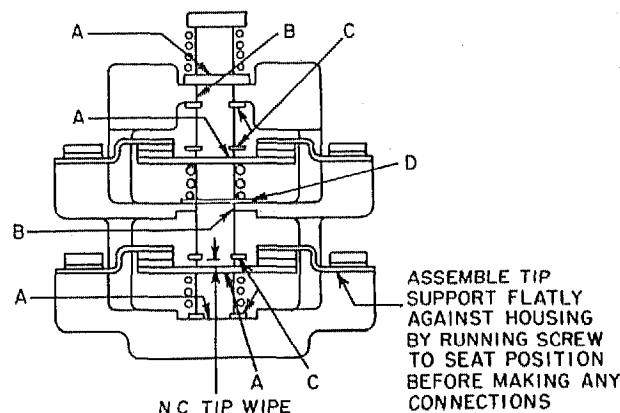

Fig. 4. Contact block with normally closed contacts in unoperated position
To replace removable contacts on interlock blocks illustrated in Figs. 4, 5, and 6, lift the spring seat with the thumb and forefinger and remove the operating plunger which supports the movable contacts. Snap off the U-shaped keys and the movable contacts can be removed and replaced. Care should be taken not to lose any parts or pieces during this operation.
The electrical interlock block has internal parts which can be rearranged to give different contact arrangements. Should this be necessary the parts should be reassembled in accordance with Figs. 4, 5, or 6.
Spring ends must not protrude into holes (A), slots (B), or keys (C), which serve as guides for operating arm. See Fig. 4.
Contact blocks with two normally closed circuits require a spring spacer (D) as shown in Fig. 4 to assure that the center spring is properly in place.